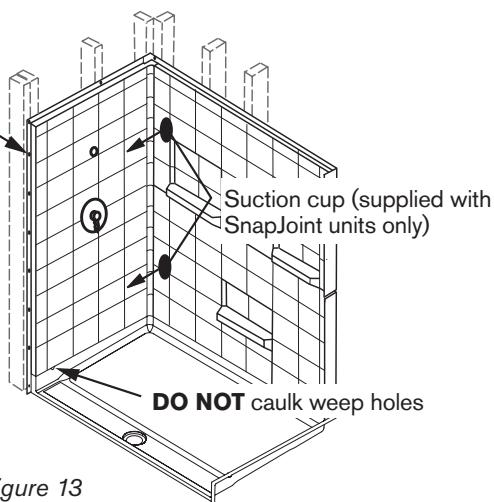

Figure 13
- 7** **For SnapJoint Walls ONLY:** With a suction cup on lower back wall panel, pull it firmly forward until back and side walls are pulled together. You will hear a series of clicks as the panel locking clip engages. Repeat with upper panel. (Figure 13)
- 8** Screw top flange of back wall to studs. Apply silicone caulk in all joints **except weep holes**, which are located near the front on the seam between the pan and side wall. (Figure 13)